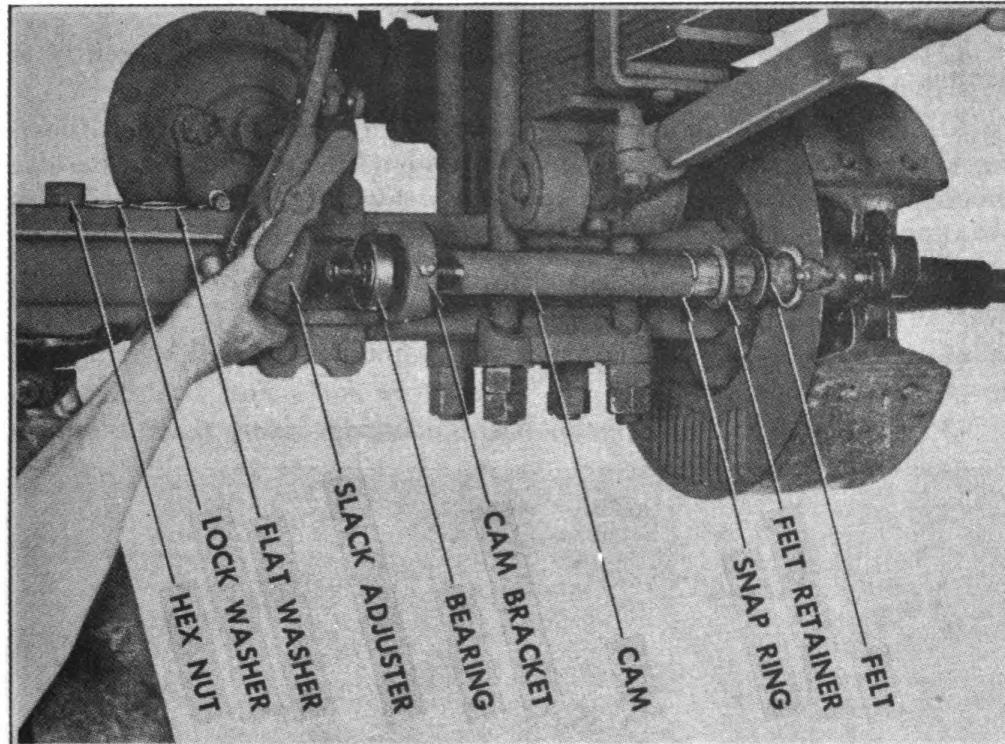

FIGURE 15. CAM—FRONT
(1) Drive out the old bushing.
(2) Press or drive in new. Drive new bushings in with care as a mushroomed or burred bushing will retard free movement of brake shoes, both in application and release. These bushings come reamed to proper dimensions.
5. CAMS, FRONT (Fig. 15).—a. *Replacing cam.*—Cams come in
(1) Remove the two bearings in each mounting plate adapter either individually or both at one time by driving them out with a hammer.
(2) Place the new needle bearings into position and tap gently to start them evenly.
(3) Place pieces of flat wood against both brake adapter and bearing and squeeze the bearing into position with a C-clamp. Bearings should be flush with the outer edges of the adapter.
(4) Inspect to make sure bearings do not cover lubricating hole.
c. Replacing Nice ball bearing in cam bracket.—(1) Remove the slack adjuster. (See Cam Replacement instructions.) (Fig. 15.)
(2) Tap the outer side of the cam bracket and the ball bearing will usually work out.
(3) If this fails, remove the Alemite fitting, insert a small screw-